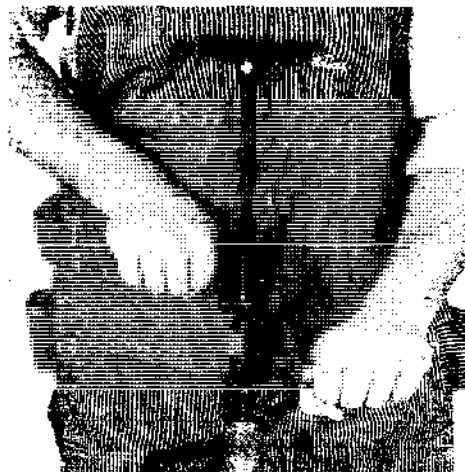

Fig. 10-56 Using a breast drill.
3. Locate the drill point in the mark. With the chest resting on the plate, proceed to drill by turning the crank and handle in a clockwise direction. See figure 10-56. Only a minimum of pressure should be applied to the plate. **NOTE:** Follow the same precautions as described for using the hand drill.